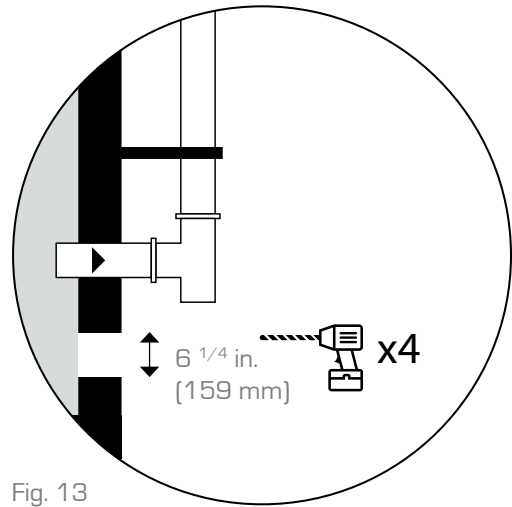

Fig. 13
1. Drill four pilot holes in a 6 1/4 in [159mm] square with a long drill bit through the wall. Make sure you are holding the drill perpendicular to the floor (fig. 13)